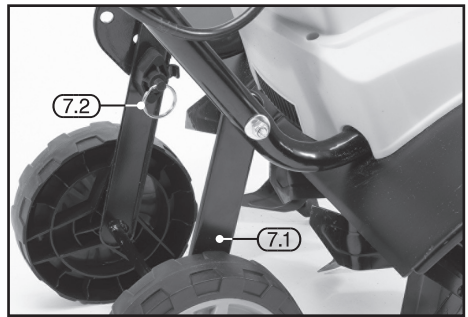

FIG.17
9.1 RAISE THE TRANSPORT WHEELS (97929) – FIGS.17 – 18